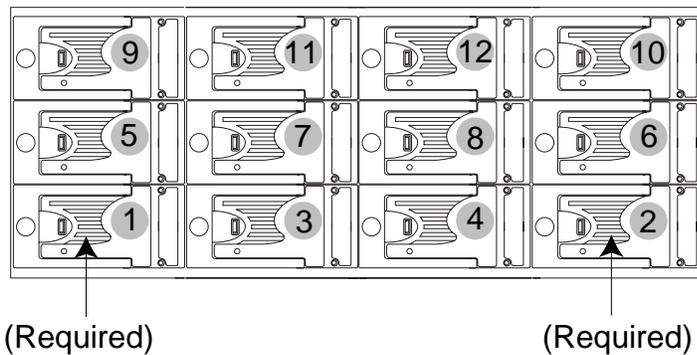

Figure 8-2 Disk Drive Installation Order
- The disk drives labeled “1” and “2” in Figure 8-2 are required for enclosure management; these disk drives must always be present.
- Install disk drives in the order shown in Figure 8-2. The number on the disk drive indicates the order in which they are installed. For example, if four disk drives are to be installed, they would fill the bottom row of the D-brick.